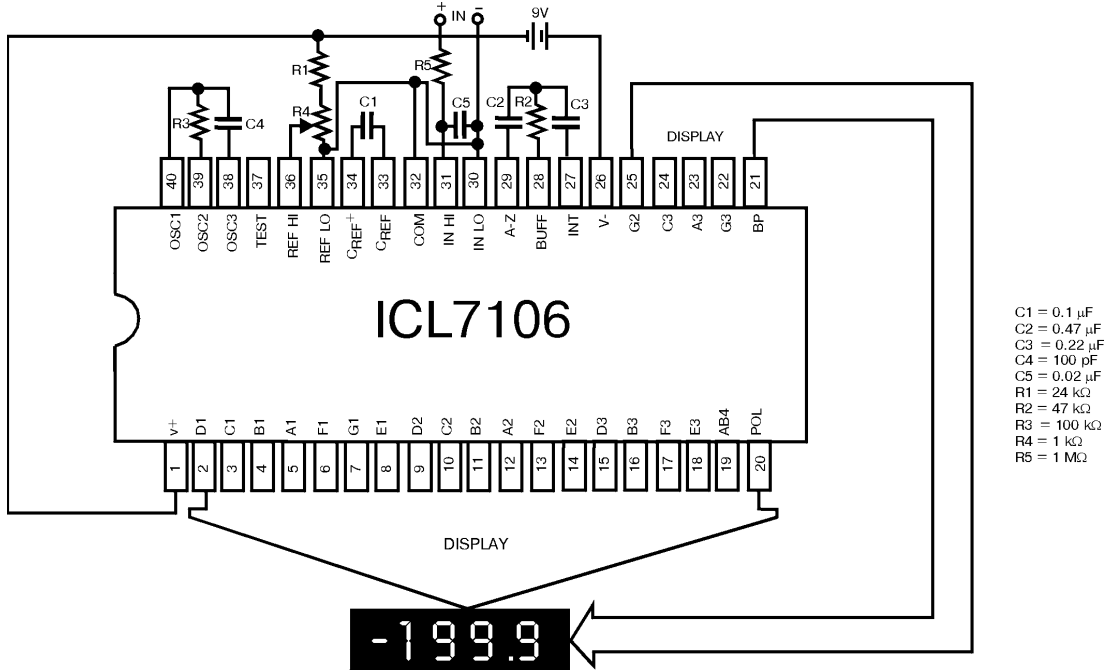
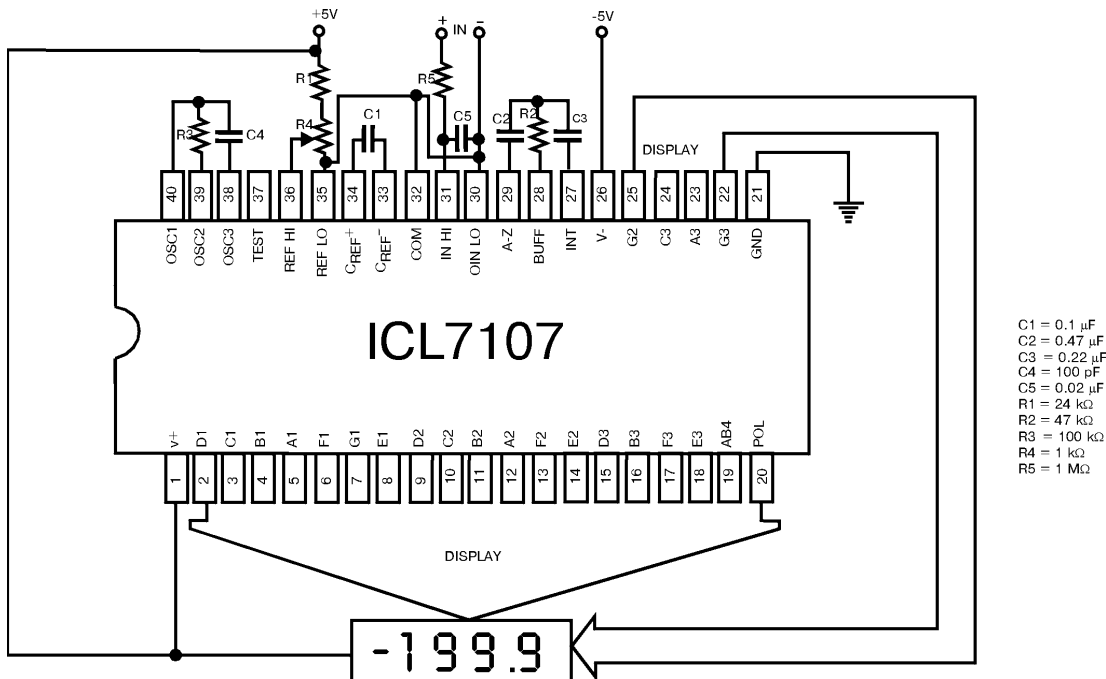

Figure 1. ICL7106 test circuit and typical application with LCD display components selected for 200mV full scale.
Figure 2. ICL7107 test circuit and typical application with LED display components selected for 200mV full scale.
- Unless otherwise noted, specifications apply to both the ICL7106 and ICL7107 at $T_A = +25^\circ\text{C}$, $f_{\text{CLOCK}} = 48\text{kHz}$. ICL7107 is tested in the circuit of Figure 1. ICL7107 is tested in the circuit of Figure 2.